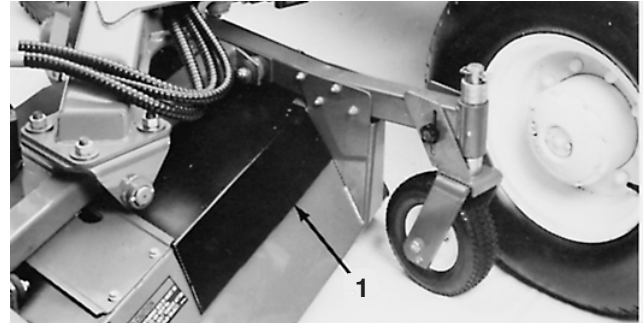
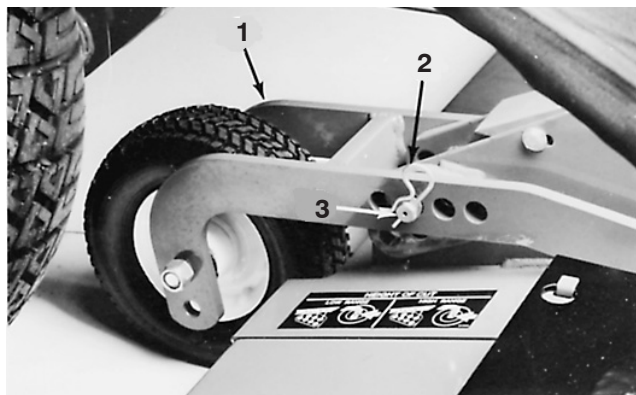

Figure 59
Figure 61
2. Remove the inner deck pulley cover (Fig. 59).
3. Remove hairpin cotters and clevis pins from the (2) rear castor assemblies (Fig. 61). Set the left hand clevis pin aside and insert the right hand clevis pin into the most forward holes in the castor wheel arm on the right side of the unit (Fig. 59). The castor arm and pin should be resting on top of the unit.